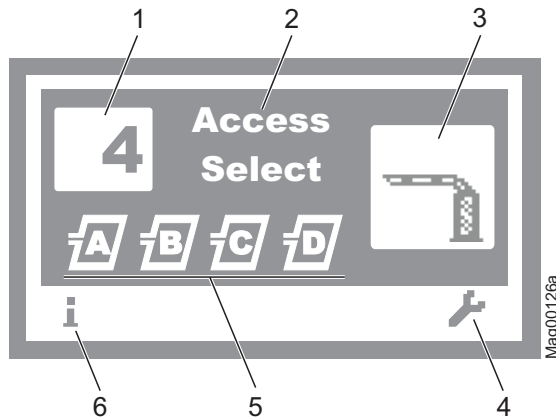

Fig. 46: Example "Operational view"
1. The operating view is displayed. → See page 107, Fig. 46.